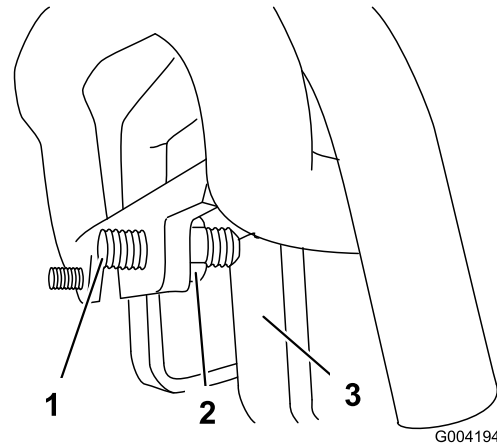

Figure 59
3. If the traction unit veers to the **left**, loosen the **right** jam nut and adjust the tracking set screw on the front of the traction control (**Figure 59**).
4. If the traction unit veers to the **right**, loosen the **left** jam nut and adjust the tracking set screw on the front of the traction control (**Figure 59**).